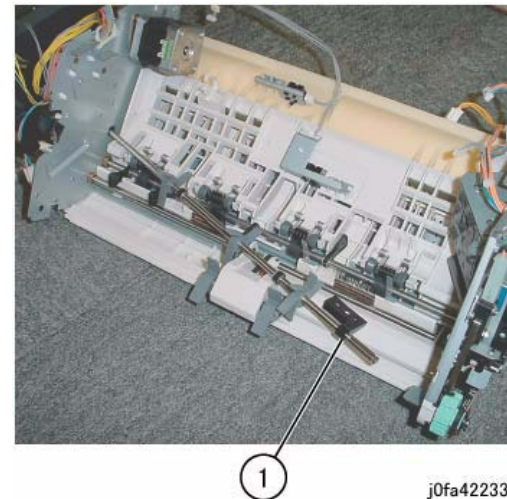

Figure 5 Removing the Main Paddle Shaft Assembly (j0fa42233)
7. Remove the Main Paddle Shaft Assembly. (Figure 5)